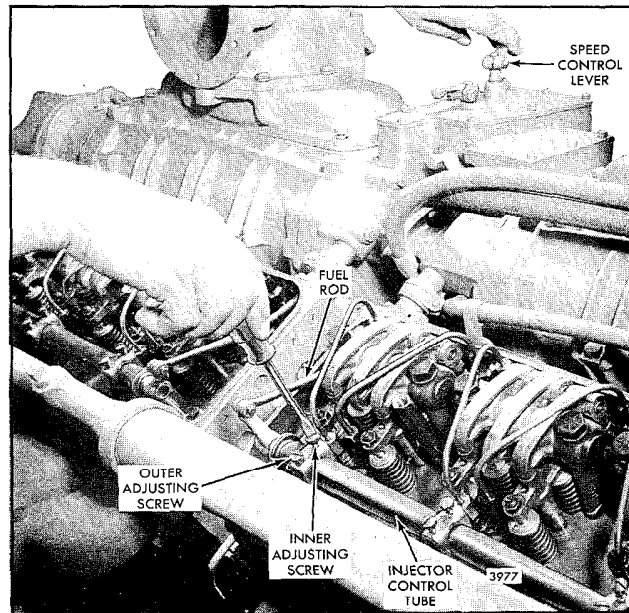

Fig. 4 - Positioning No. 4L Injector Rack Control Lever (Two Screw Assembly)
7. Hold it with light finger pressure (Fig. 4) and adjust the No. 4R injector rack by turning the inner adjusting screw down until a slight movement of the control tube is observed or a step-up in effort to turn the screw driver is noted. This will place the rack in the full-fuel position. Turn the outer adjusting screw until it bottoms lightly on the control tube. Then tighten both the inner and outer adjusting screws alternately.